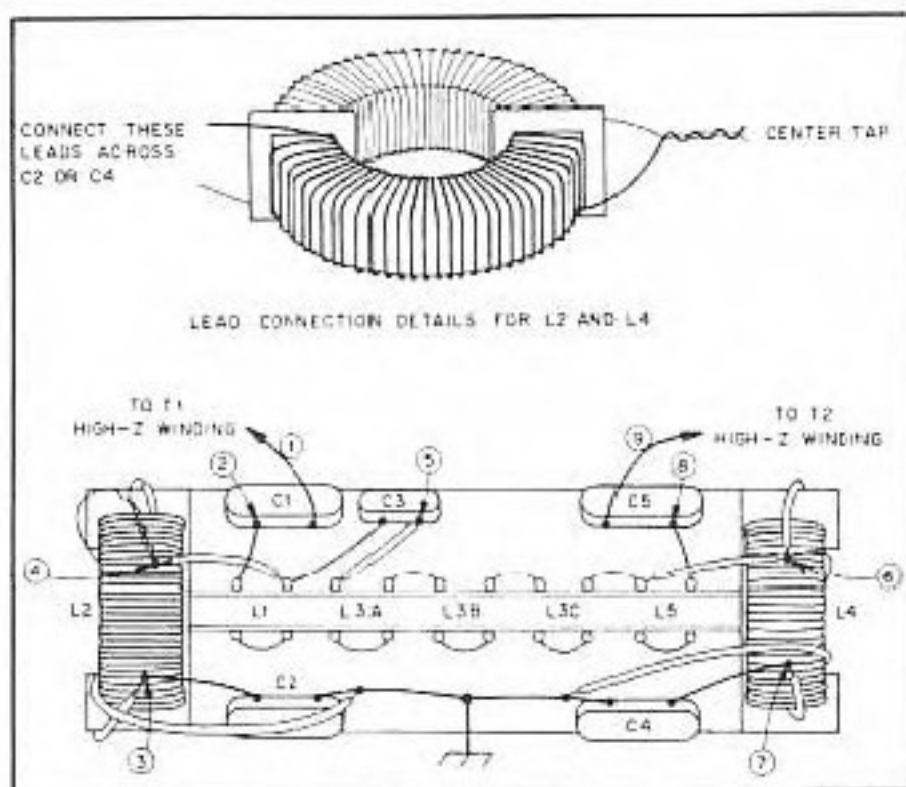

Fig 2—Pictorial diagram showing L2 and L4 lead connection and wiring of inductor stack (L1, L3, L5).
Fig 2 is a pictorial diagram showing the filter wiring. Note the 44-mH lead connection, as well as the connections between the capacitor leads, the 88-mH stack terminals and the 44-mH inductor leads. Fig 3 shows the finished filter installed in an aluminum box. Before beginning construction, obtain one 88-mH five-inductor stack with a mounting clip and two 44-mH inductors, and then follow steps 1 to 5.
winding to the finish lead (no sleeve) of the adjacent winding to make the center tap as shown in Fig 2. Do the same for the second 44-mH inductor.
3) Position the 43.5-mH inductors so their leads can be easily connected to the rest of the circuit. Solder the capacitor leads to the stack terminals as shown in Fig 2.